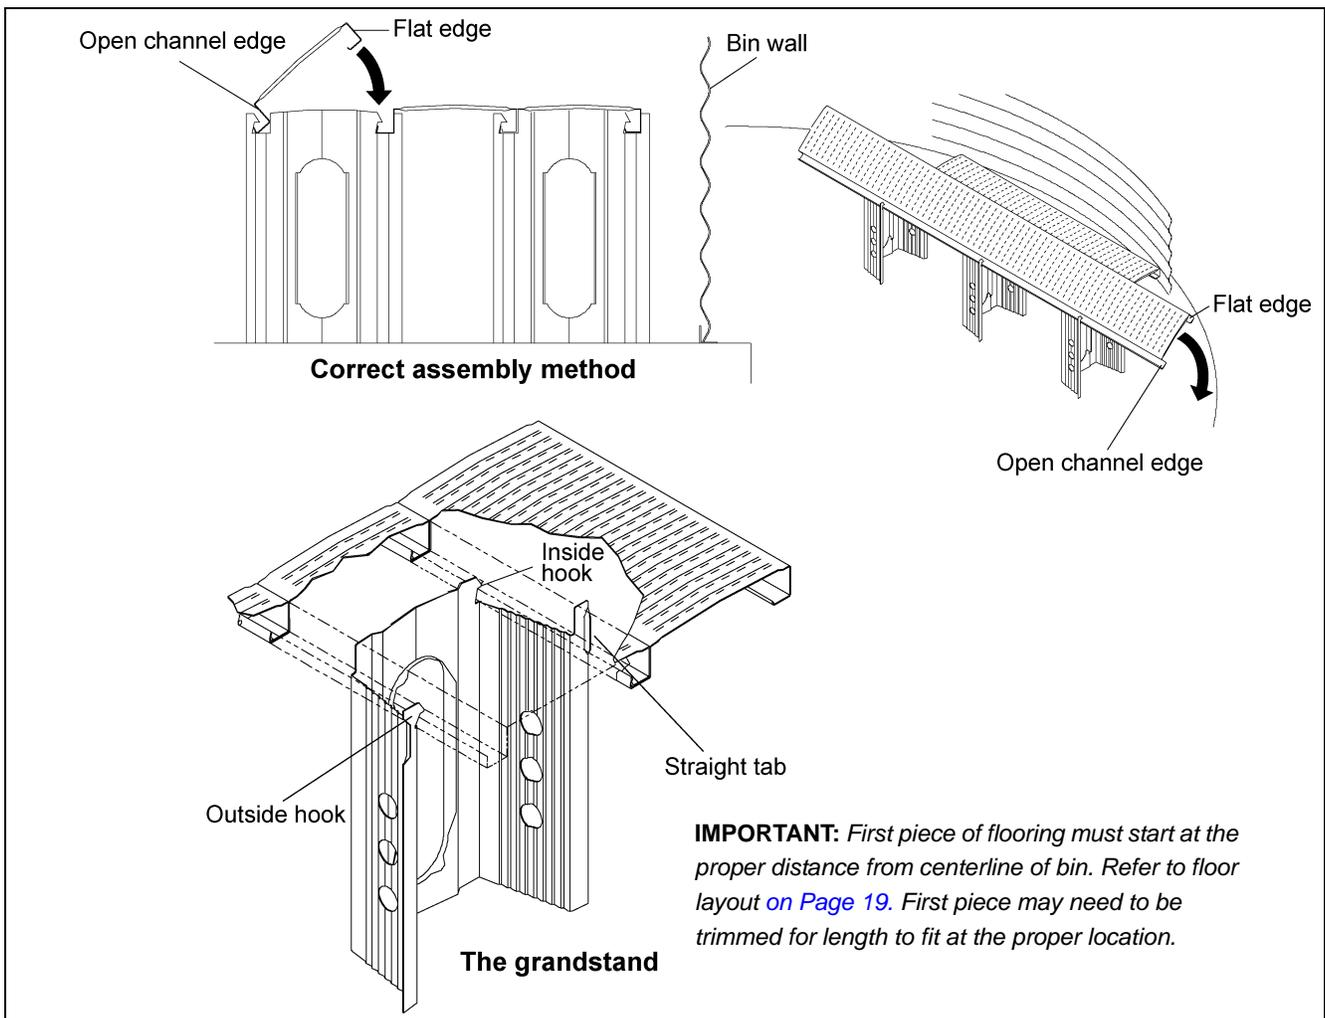
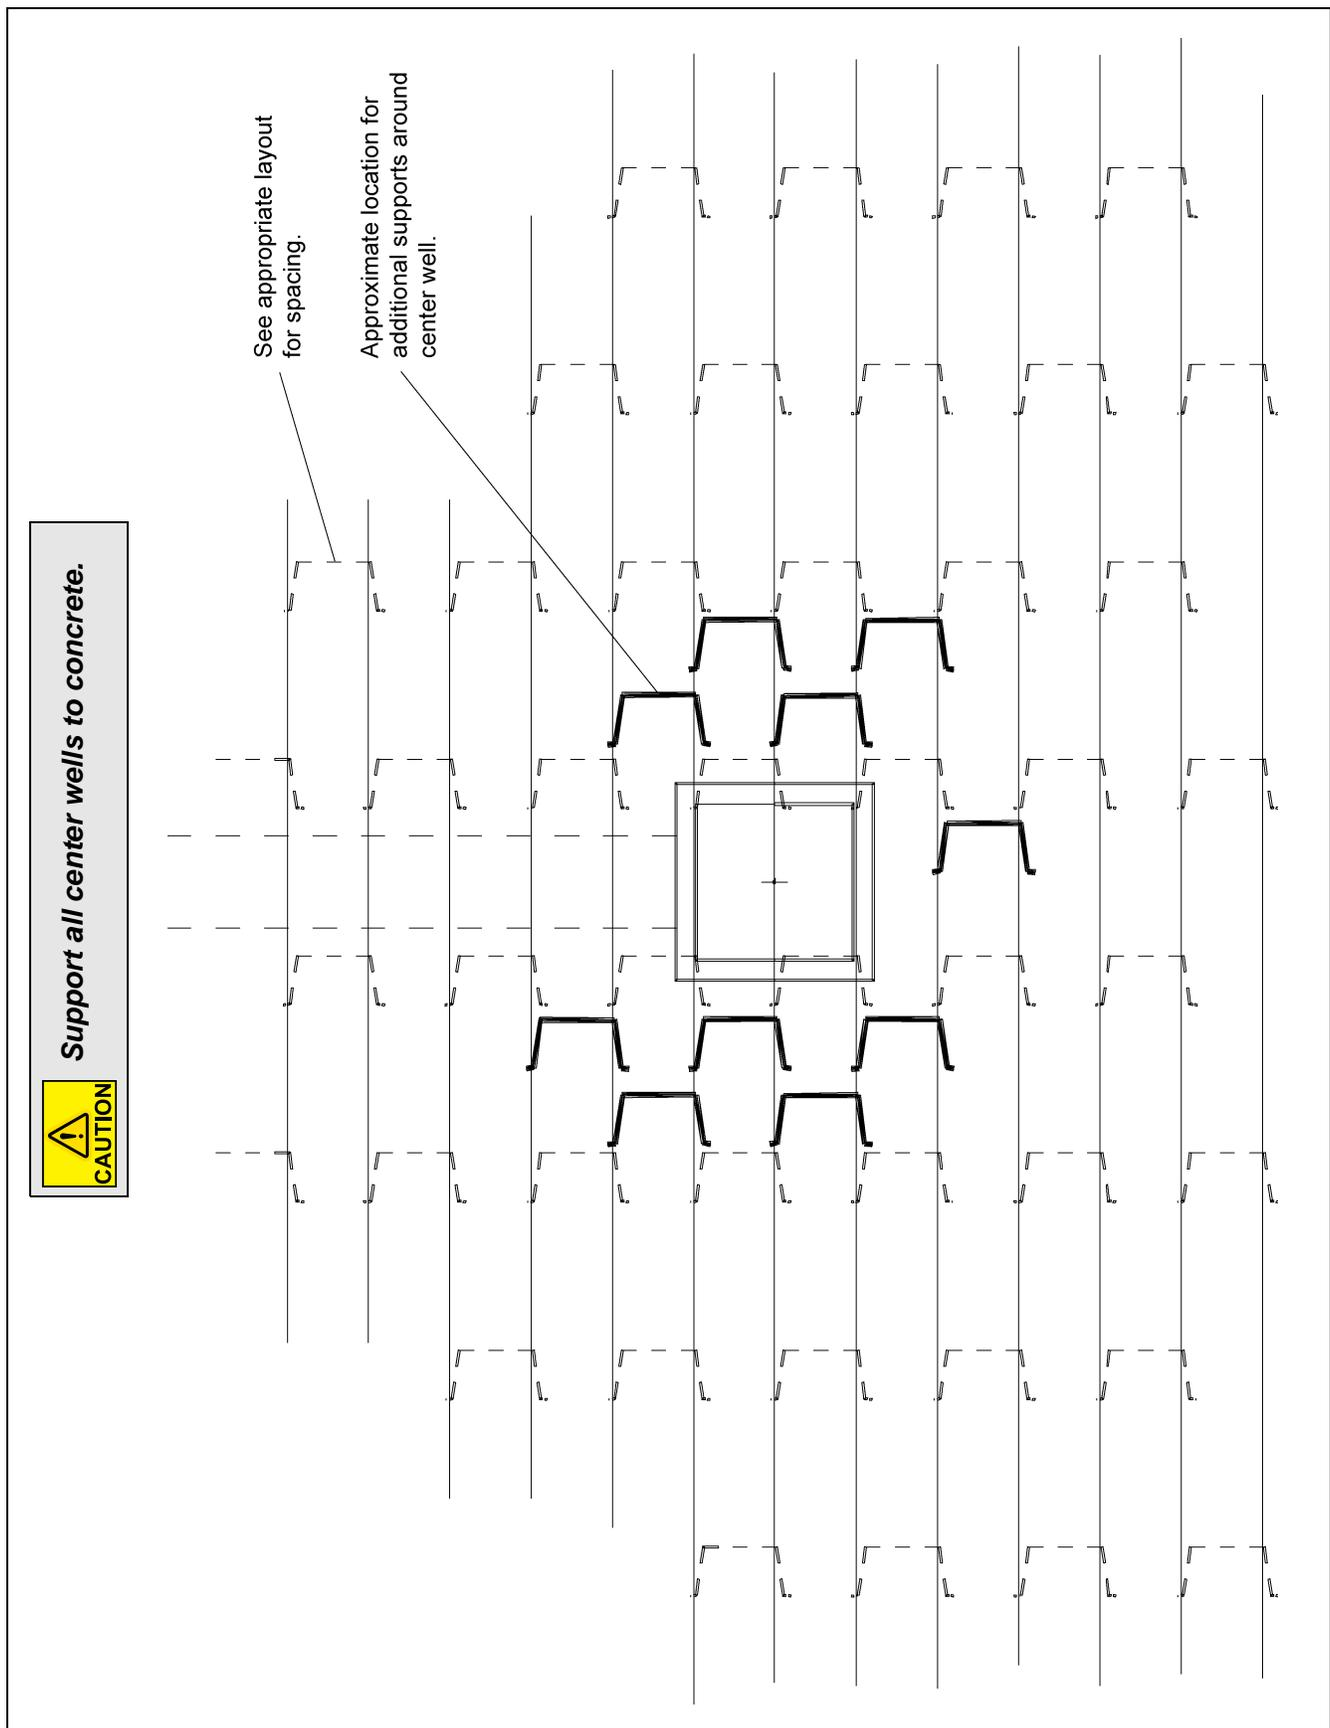
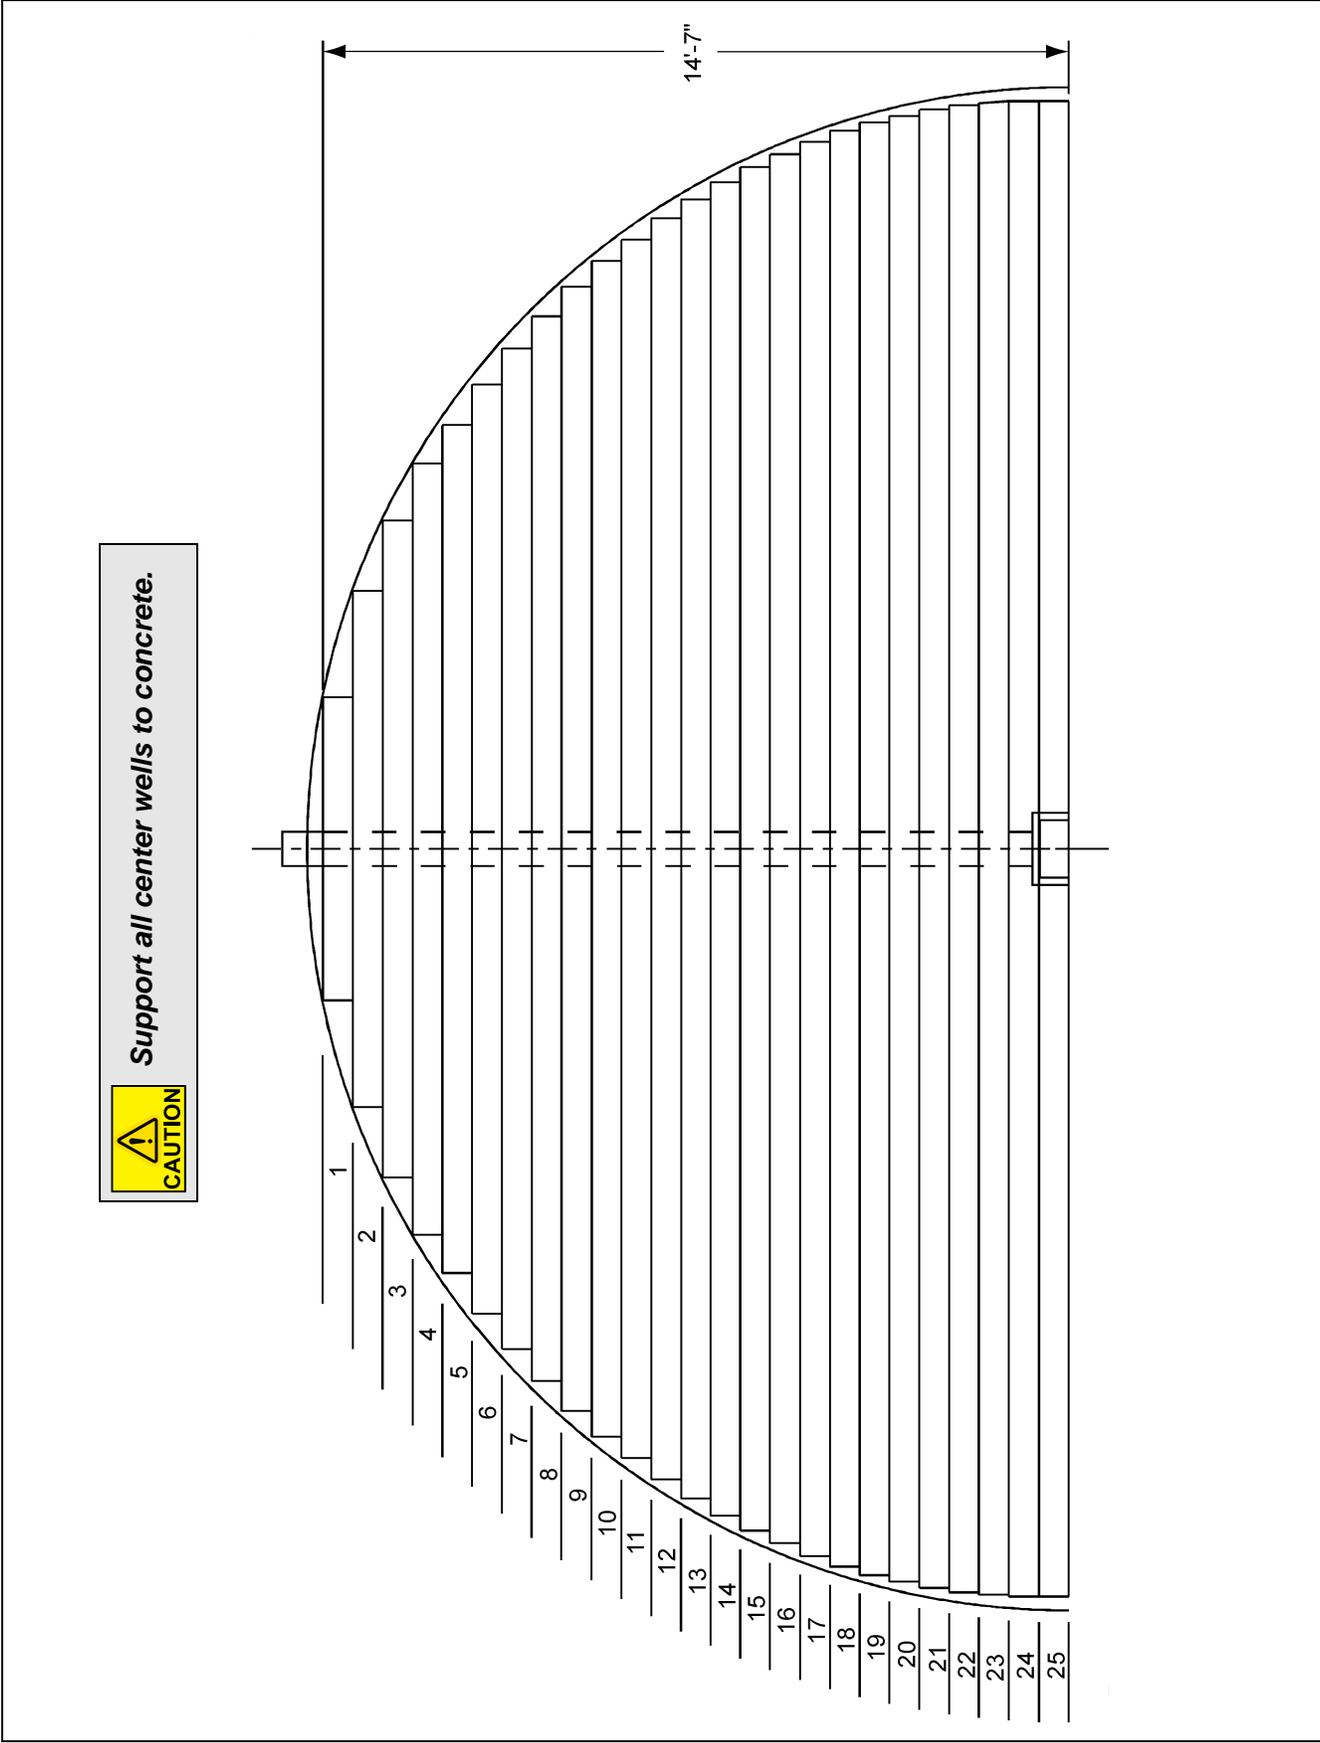

Figure 4C
Figure 7A
Figure 8A
4. Install flooring starting at the bin wall on the opposite side of the unload auger. Floor planks should be placed perpendicular to the unload auger with the outside edge the correct distance from the center of the bin. (See Figure 8A on Page 19.) Be sure the flat edge of the floor plank is facing the bin wall and the open channel edge is facing towards the center of the bin. (See Figure 4C.) Position the supports for the first/shortest floor plank according to the number of bin rings and corrugation as shown in the illustrations on Pages 20-29 or stated in the charts on Pages 30-31. Attach the flashing to flooring and bin wall to hold plank in place. (See Page 17 for flashing installation.)
5. **POSITION THE NEXT ROW OF SUPPORTS ACCORDING TO THE CHALK LINES** and support layout. The straight tab should “snap” under the first (previous) floor piece. After the supports in the row are correctly positioned, install the next floor piece by hooking the open channel edge under the outside hooks of the floor supports. Push down sharply on the edge of the floor piece until it snaps into the previous floor piece. (See Figure 4C.) Continue this process for the rest of the floor cutting planks for center and intermediate wells as needed. See Figure 7A on Page 18 for center well support locations.